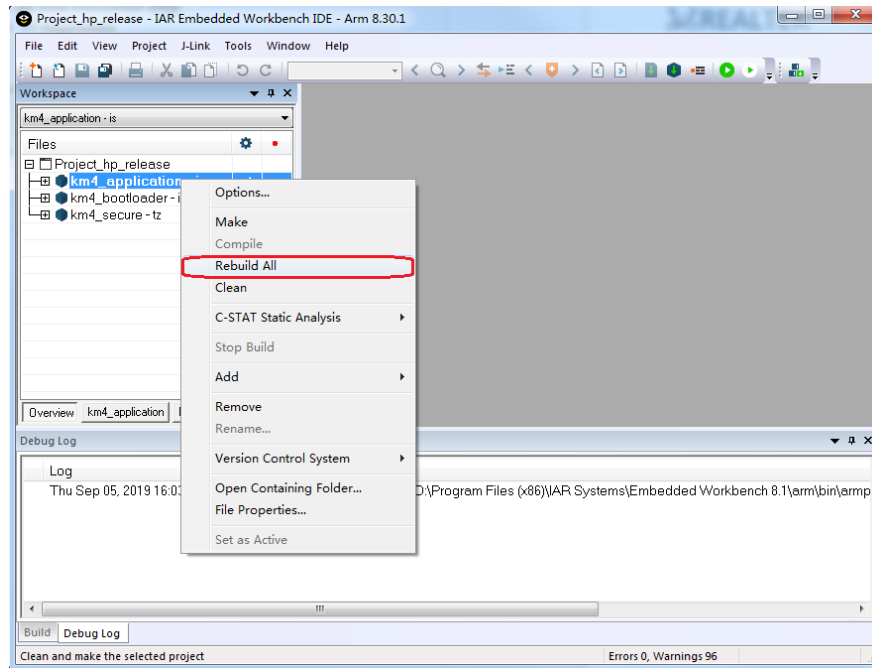

Fig 4-4 Building KM4 project
- (4) Right click the project and choose "Rebuild All", as Fig 4-4 shows. The km4_bootloader, km4_application should compile in order.